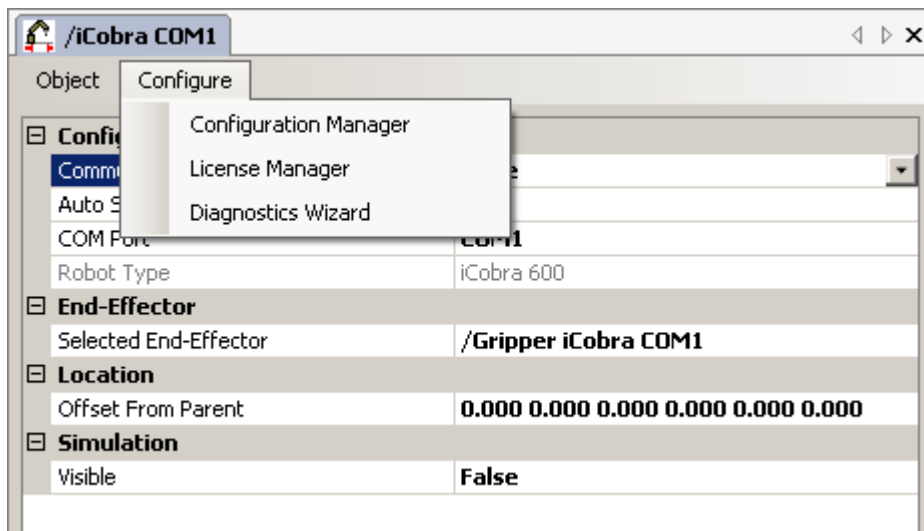

Figure 13. Selecting the Diagnostics Wizard
2. In the object editor, select **Configure > Configuration Manager**. See **Figure 13**.